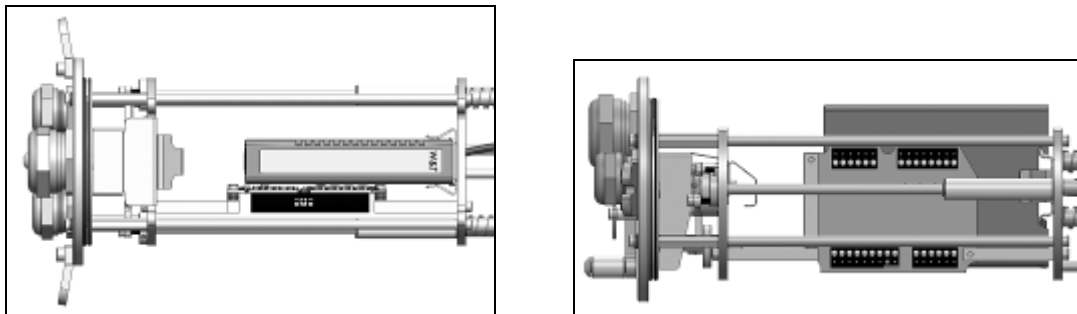

Figure 52 (a + b): Fitting the USB server Gigabit into the chassis (top view and right hand view)
6. Engage the USB server Gigabit to the DIN rail plate (**Figure 52**).